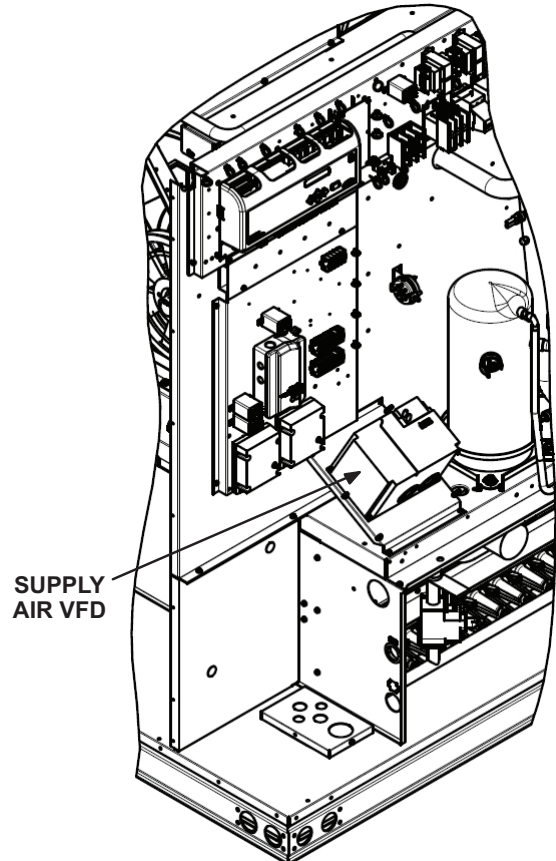

FIGURE 5
- 1- Disconnect all power to unit and **WAIT AT LEAST 10 MINUTES** before opening the VFD cover. See FIGURE 2 through FIGURE 5 for location.